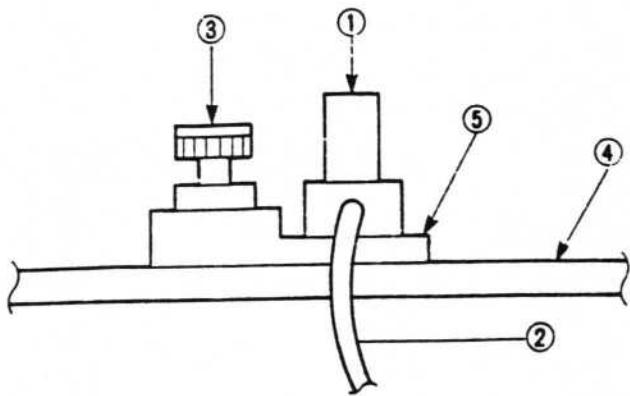

Fig. 16
2. Remove the securing bolt (3) (see Fig. 16) and remove the BU (backup) cylinder stand (5) from the backup pin stand (4).